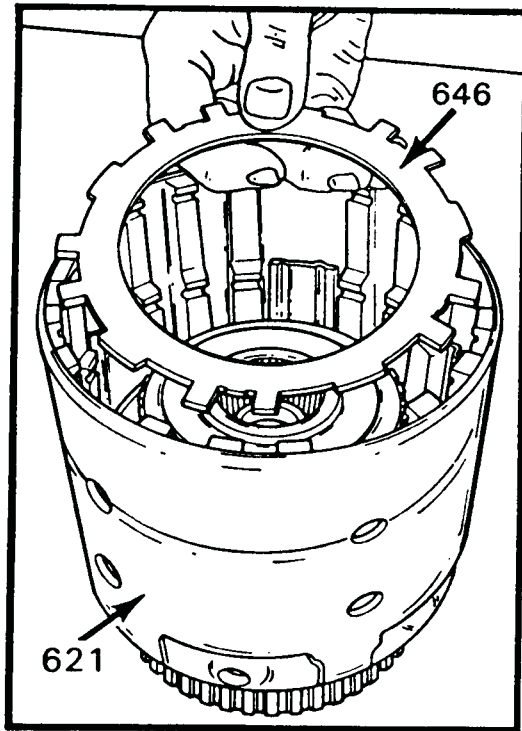

Figure 101
1. Install the forward clutch **APPLY** plate as shown in Figure 101. Align the teeth on the apply plate so that the wider tabs are on top of the forward clutch piston legs.